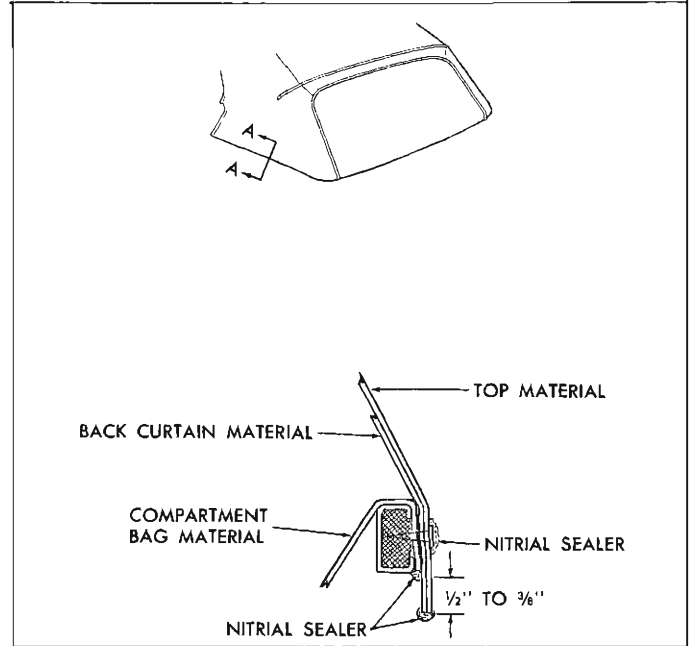

Fig. 73—Sealing at Trimsticks
must extend 1/2" to 5/8" below trim sticks to minimize water wicking on inner lining of back curtain material. (See view "A-A" in Figure 73.) Trim top material as required.
43. Apply convertible top sealer (nitrile) onto all trimmed edges, around each tack head and around each trim stick attaching bolt hole. (See view "A-A" in Figure 73.)